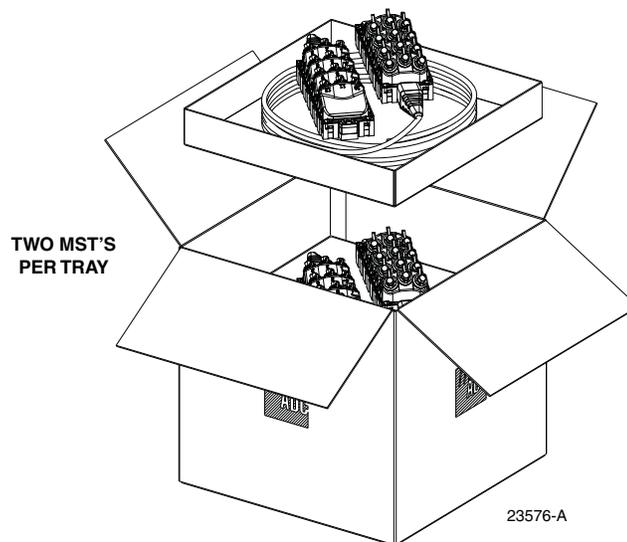

Figure 4. Typical MST Cable Coiled and MST Placed in a Box
**Coiled Cable Handling:** If the MST is placed in a box with other MST's, carefully remove the packaging material to expose the cable coil and the MST as shown in Figure 4. Leave the MST on top and in the center of the coil. If the MST was ordered with the **standard** spooling option, locate the **free** end of the cable and then carefully uncoil the cable from around the MST. If the MST was ordered with the **reverse** spooling option, carefully uncoil the cable starting with the **MST** end of the cable.